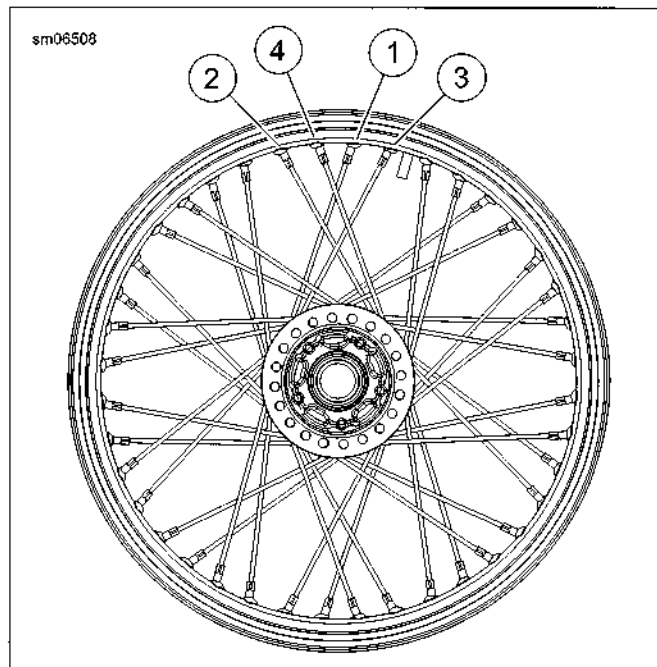

Figure 2-32. 40 Spoke Single Row Straight Flange Hub
12. See Figure 2-32. Beginning with the 2nd hole counterclockwise (1) from valve stem hole, install lower flange outer spokes (short head) in every 4th hole. Loosely install spoke nipples.
16. See Figure 2-32. Beginning with the first hole counterclockwise (3) from valve stem hole, install upper flange inner spokes (long head) in every 4th hole.
17. Rotate outer spokes (short head) counterclockwise and install in the remaining holes (4) in the rim.